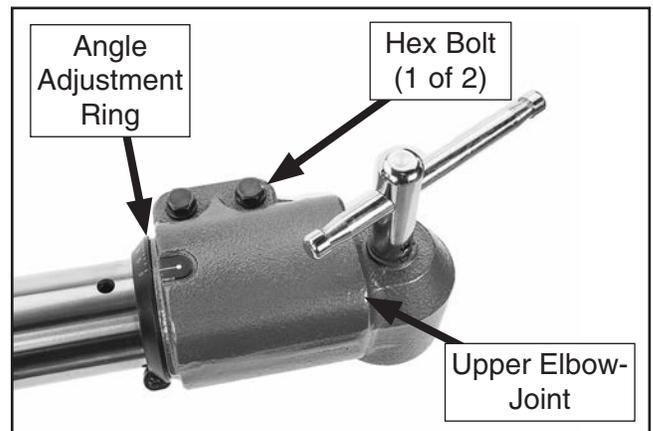

Figure 10. Angle adjustment ring installed onto upper elbow-joint.
4. Slide angle adjustment ring onto overarm shaft, slide upper elbow-joint onto overarm shaft, then tighten for now with one of the hex bolts shown in **Figure 10**.